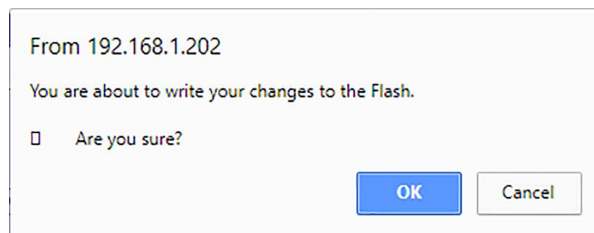

Figure 5-42 - Download Setup File
5. To download an XML file containing all of the settings defined on the Setup page to the local machine, click **Download Setup to PC**. The following dialog appears (see Figure 5-42):